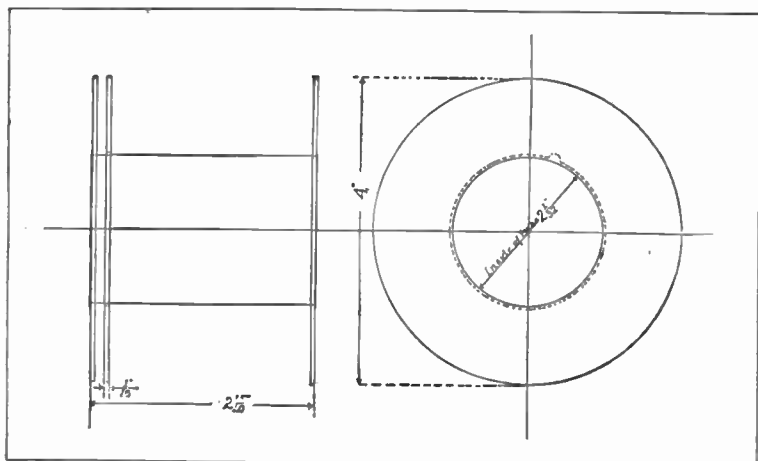

Fig. 13. Detail of the spool
*Field Winding.* In consequence of the round core of the field magnet, this winding can be quickly done in a lathe. Fig. 13 shows a detail of a spool. It consists of